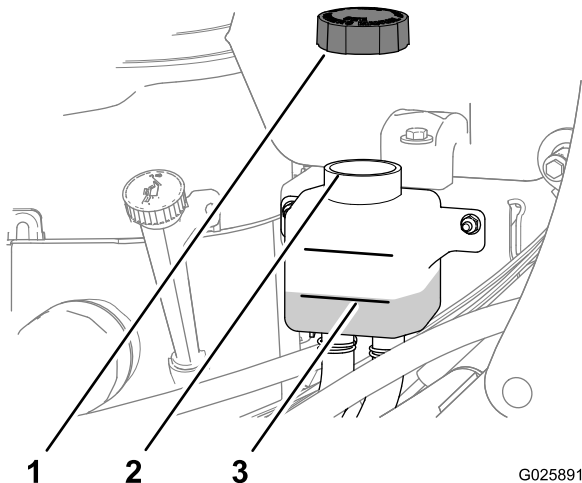

Figure 62
- Remove the cap from the expansion tank and check the hydraulic-oil level in the tank (Figure 62).
- If necessary, add the specified transmission oil until the oil level is at the Full Cold line of the expansion tank (Figure 62).